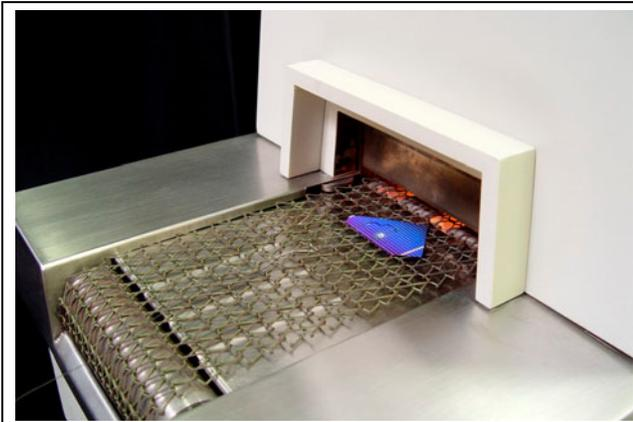

Figure 8-9 Silicon Wafer Entering Furnace
E. Place sample on belt. As part passes furnace entrance (Figure 8-9), start data logger.